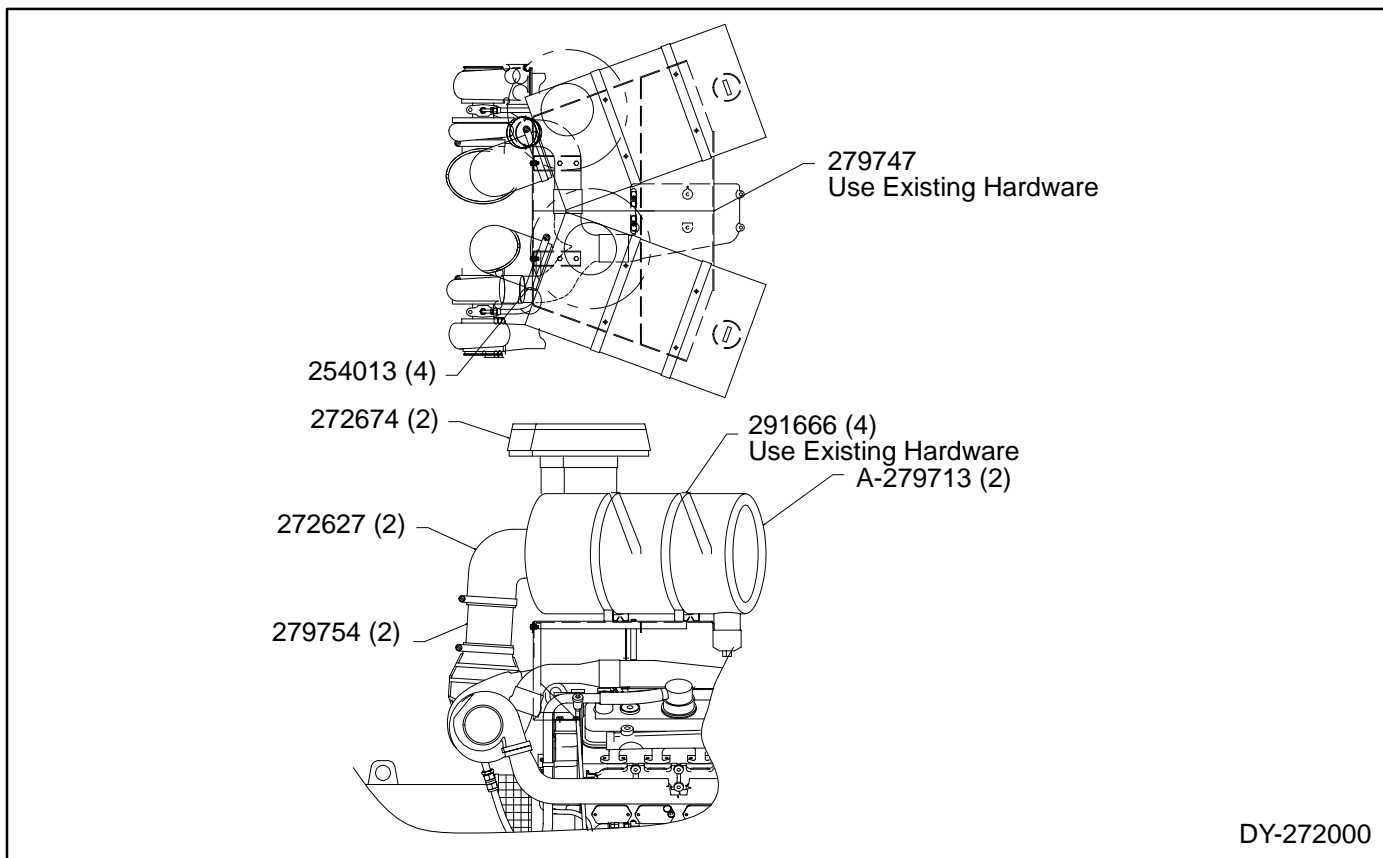

Figure 1. Heavy-Duty Air Cleaner Kit Installation.
3. Install mounting plate (279747) from kit, using existing hardware on engine as appropriate. See Figure 1.